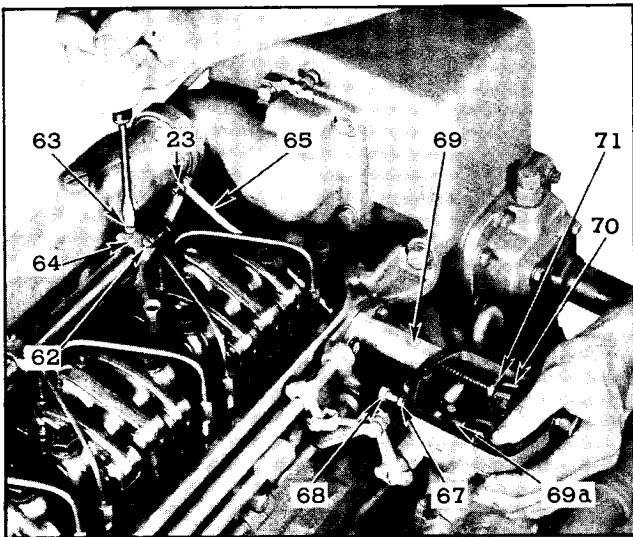
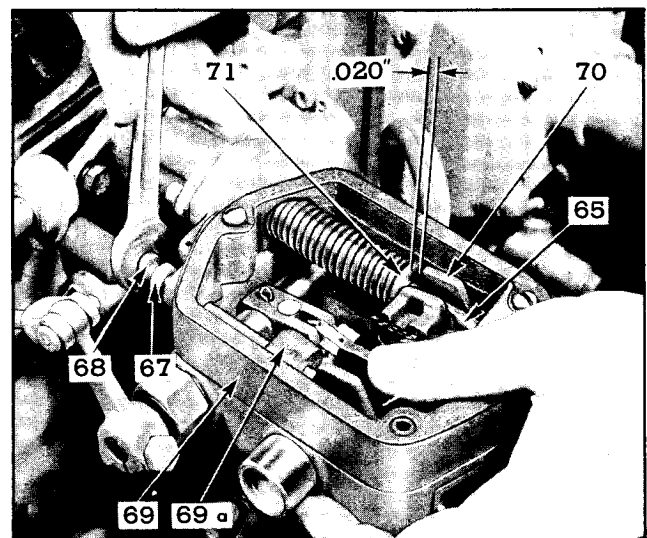

Fig. 13—Positioning No. 1 Injector Control Rack.
Fig. 14—Setting Maximum Fuel Adjusting Screw (Load Limit).
2. Remove valve rocker cover, then with throttle at instrument panel in "Stop" position, loosen adjusting screws (62) and (63) in all six injector rack control levers (64) four turns.
3. Loosen fuel rod lock nut (66) and remove shut-down knob.
4. Turn lock nut (66) to such a position that $\frac{3}{16}$ " of the fuel rod (65) extends beyond nut.
- a. Refer to Figs. 13 and 14 and loosen locknut (67) on maximum fuel adjusting (load limit) screw (68) and back screw out flush with outer face of boss (69a).
- b. While holding the fuel rod (65) way in and the terminal lever (70) tight against the boss, as shown in Fig. 13, turn inner rack control adjusting screw (62) down until fuel rod collar (71) contacts terminal lever (70) and the terminal lever **just starts** to leave the boss (69a) in the subcap.
- c. Tighten outer rack control adjusting screw (63).
IV. Maximum Fuel Adjustment (Load Limit)—Again, while holding fuel rod way in (FULL FUEL position of injector racks) with terminal lever (70) up against fuel rod collar (71), as shown in Fig. 14, turn fuel adjusting screw (68) in until .020" space exists between terminal lever and collar. Tighten lock nut (67).
position so the gear teeth do not strike the end tooth of the injector rack. To move the screw in too far will prevent full open position of the injector racks. **THIS MUST BE AVOIDED.** The screw is in the proper distance when a .020" feeler gauge fits snugly between the fuel rod collar (71), Fig. 14, and the terminal lever (70) with the fuel rod (65) way in and the terminal lever tight against fuel adjusting screw (68).
- a. Disconnect fuel rod (65) from control tube lever (23) by removing clevis pin.
- b. Move control tube lever (23), to hold No. 1 injector rack all the way IN and adjust each of the remaining rack control levers (64) in turn to the full IN position by turning down on inner adjusting screw (62) until the injector rack can be felt striking "bottom" and No. 1 rack can be seen to just begin movement outward.
- c. Then tighten outer screw (63) and lock inner screw (62).